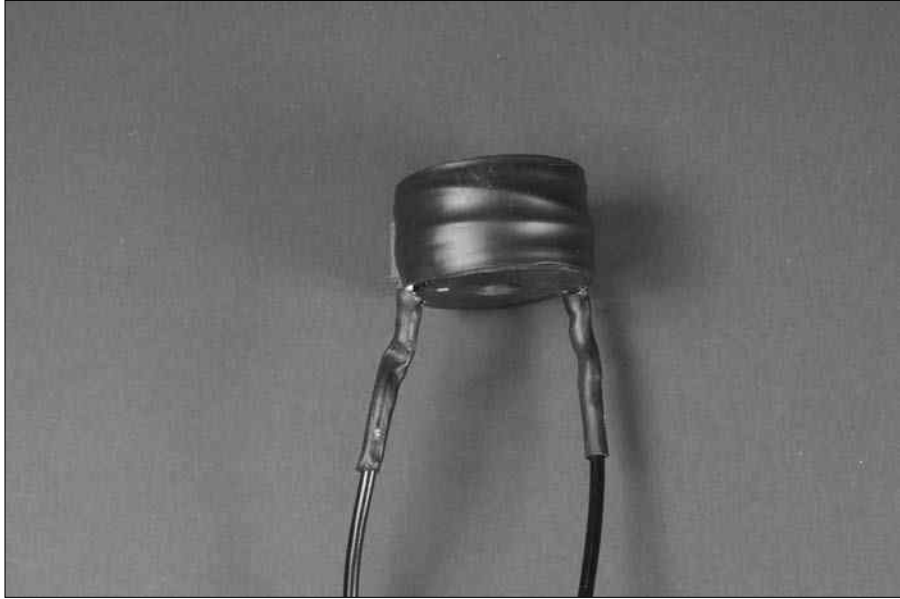

Figure 12-14:
7. Solder 12" wires to each of the two inductor leads, as shown in Figure 12-14. Slip a 1" segment of heat shrink tubing over each solder joint and use a hair dryer to secure the tubing in place.